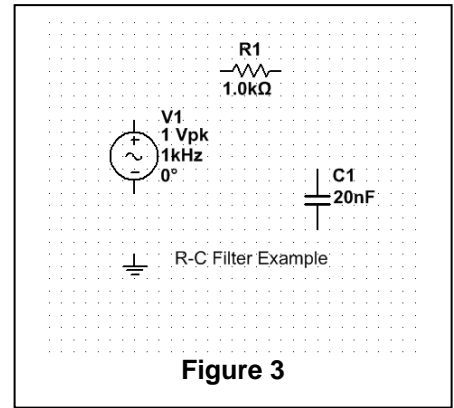

Figure 3
2. Select each component and position it on the screen in the order shown in figure 3 below. To move component symbols around, hold down the left mouse button whilst you move the component. Note that a blue dashed box appears around the component when it is selected.
Note also that the capacitor C1 in Fig 3 has been rotated through 90°. Select the component with the **right mouse button** then select 'rotate 90 degrees clockwise'. The component rotates but the component identification does not rotate. A text box has also been added. From the Multisim main menu select **Place > Text** or type with your keyboard **Ctrl+Alt+A**.